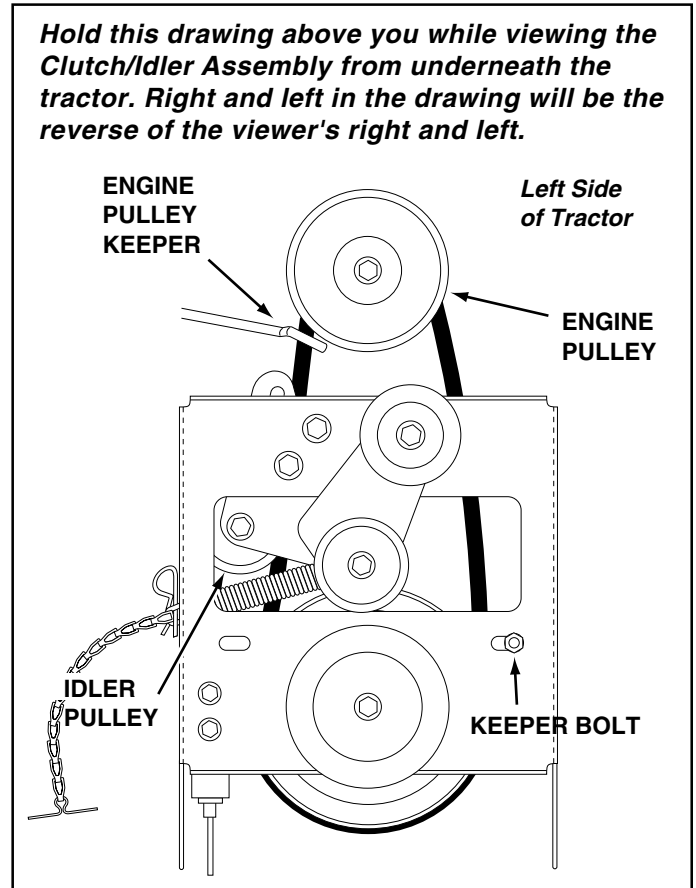

FIGURE 18 VIEWED FROM UNDERNEATH
8. Assemble the short "V" belt onto the engine pulley and then onto the large pulley on top of the clutch/idler assembly. The belt must be placed to the inside of the engine pulley keeper, the idler pulley and the keeper bolt located beside the large pulley. See figure 18.